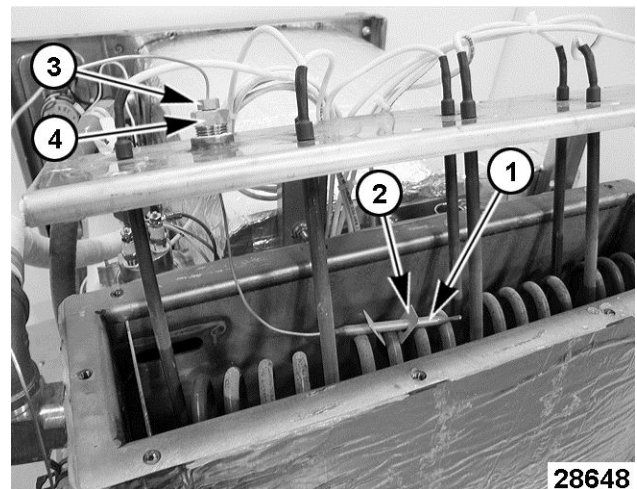

Fig. 35
4. Note mounting position of capillary bulb [1] Fig. 35 on heating element then compress the spring clamp [2] Fig. 35 to remove bulb from heating element.
5. Fully loosen the small capillary tube compression nut [3] Fig. 35 and slide it away from heating element.
6. Remove large capillary tube mounting nut [4] Fig. 35 from heating element plate and slide it away from heating element.